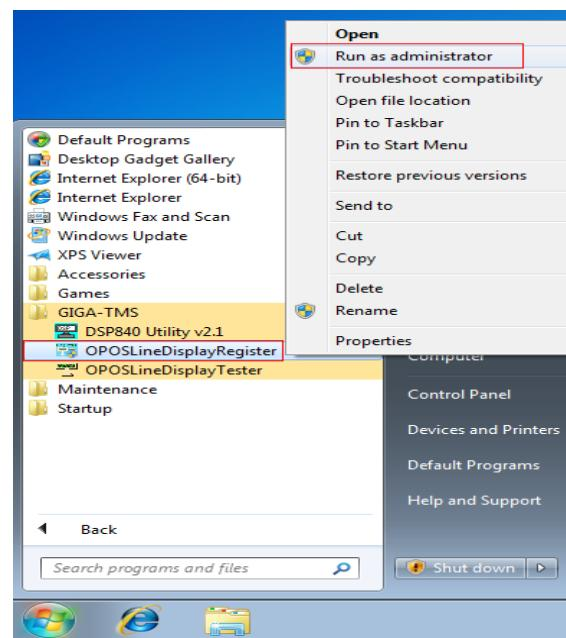

Figure 3-4.run as administrator.
2. To run the software in Windows 7 must **run as administrator**, see figure 3-4.